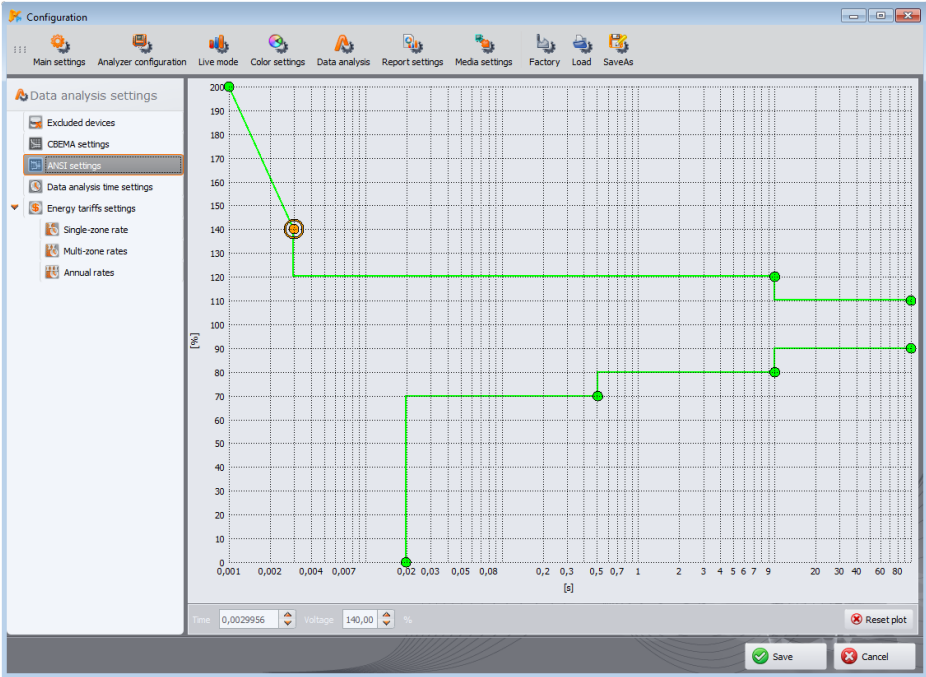

Fig. 85. Program configuration – ANSI graph settings.
- **SETTINGS OF ANSI GRAPHS** – similarly as in case of CBEMA graphs - enables user to change the default criteria for ANSI graphs (Fig. 85). Changes are introduced by changing the position of the nodes in the graph. Default settings may be restored by clicking **RESET GRAPH** button.